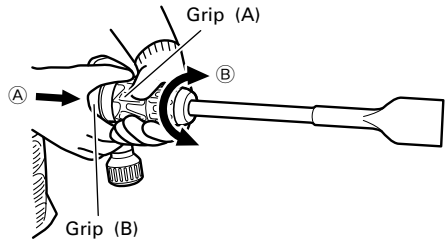

Fig. 3
- (1) As shown in Fig. 3, if the grip (A) is turned in the direction of (B) in a state where the grip (B) is pushed in the direction of (A), the blade angle can be changed freely to any desired position.
- (2) Release grip (B) and turn the tool, and make sure that it is locked completely.